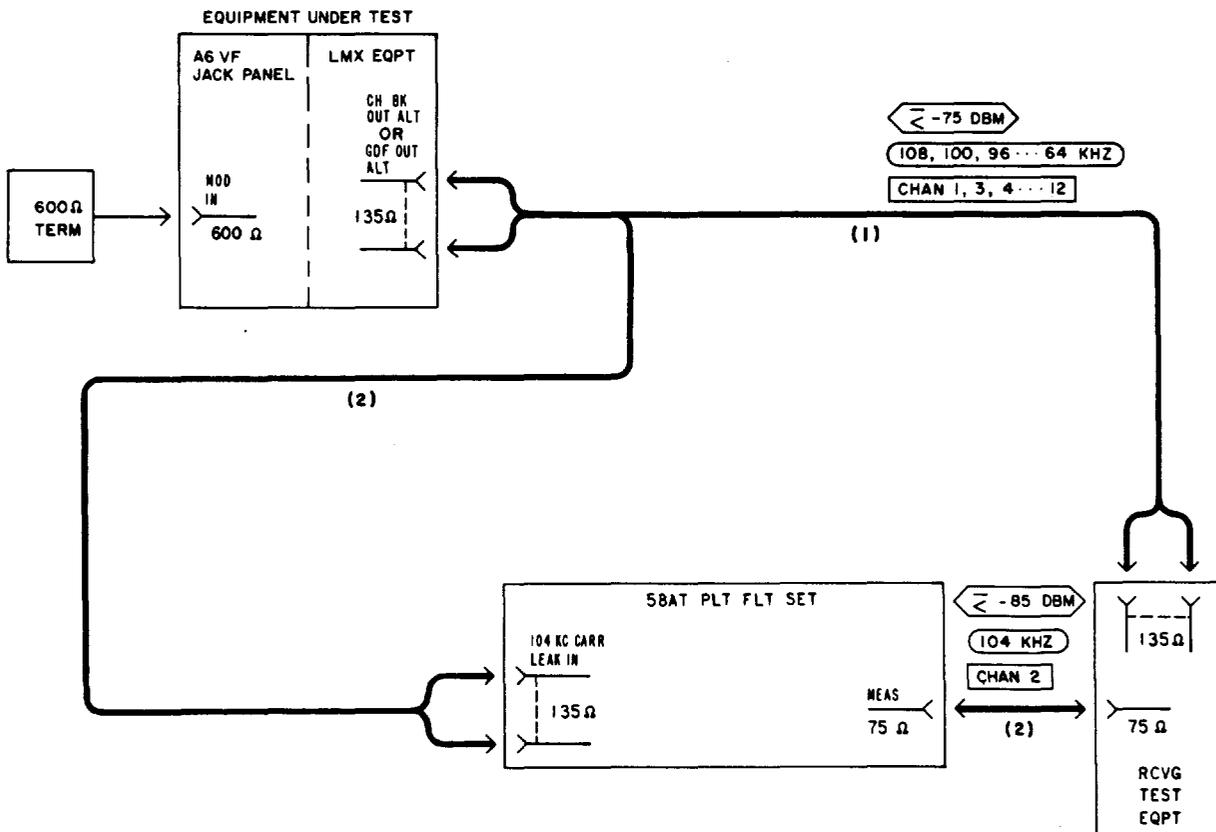

Fig. 4—Patching Diagram—Carrier Leak Test
- 2 Insert a 262B plug (600-ohm termination) in the MOD IN jack for the channel under test (Fig. 4).
- 3 At the LMX equipment, connect the RTE to the CH BK OUT ALT (LMX-2) or GDF OUT ALT (LMX-3) jack [patch (1), Fig. 4].
- 8 At the LMX equipment, remove patch (1), Fig. 4.
- 9 At the LMX equipment, connect the RTE, via the 104 KC CARR LEAK IN/MEAS jacks on the 58AT pilot filter set, to the CH BK OUT ALT or GDF OUT ALT jack [patch (2), Fig. 4].
- 11 At the LMX equipment, remove patch (2), Fig. 4.